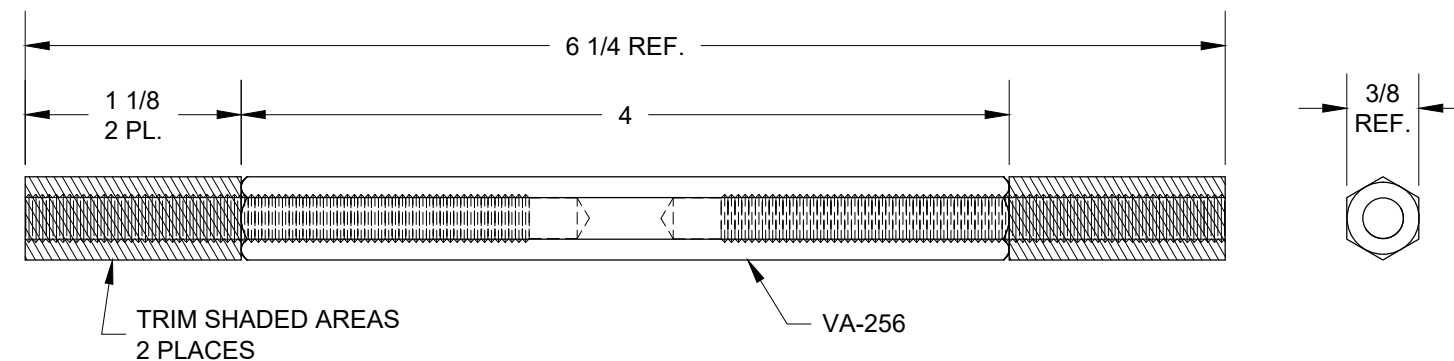

FIGURE 1: CUT FLAP PUSHROD TO LENGTH
Step 2: Trim each end of the VA-256 Flap Pushrod per Figure 1 dimensions. Deburr and if necessary clean up the threads with a 1/4-28 UNF tap.